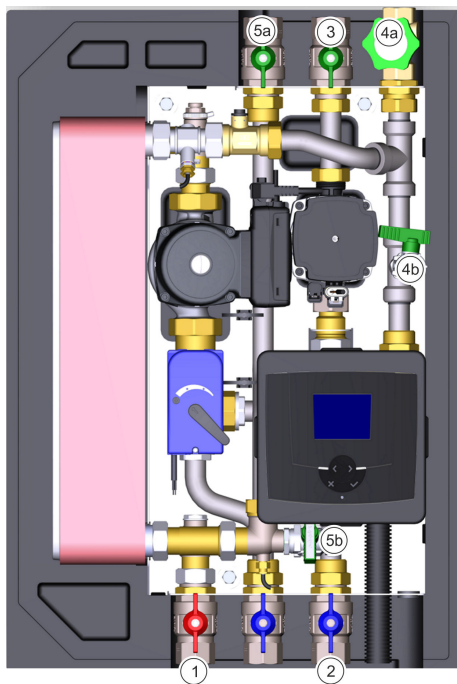

Fig. 26: Filling the fresh water station
5. ➤ Slowly open the connection for the main drinking water inlet line (Fig. 26/4a or 4b).
6. ➤ Open the connection for drinking water distribution (hot) (Fig. 26/5a or 5b).
7. ➤ If installed and already connected, open the connection for integrated circulation (Fig. 26/3).
Slowly open the primary connection for the heat supply flow line (Fig. 26/1).
10. ▶ Open the primary connection for the heat supply return line (Fig. 26/2).